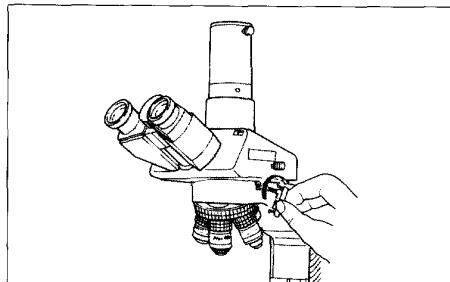
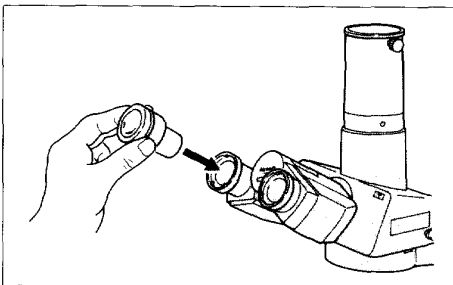

Fig. 2-14
Fig.2-15
⑨ Mounting the Trinocular Eyepiece Tube
- Loosen the eyepiece tube clamp screw sufficiently using the hexagon wrench. (See ④.)
- Insert the circular dovetail of the trinocular eyepiece tube into the circular dovetail of the eyepiece tube mount. Fasten it with the eyepiece tube clamp screw (Fig. 2-14).
⑩ Mounting the Eyepiece
- Insert the eyepieces into the sleeves of the trinocular eyepiece tube by engaging the three grooves of the eyepiece with the three protrusions of the sleeve (Fig. 2-15).